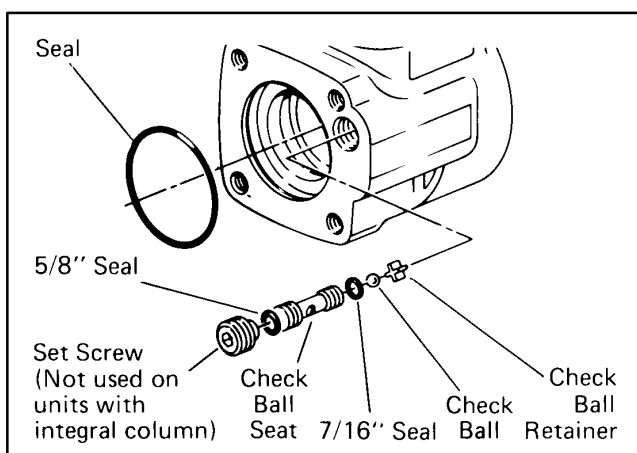

Figure 36
20. Remove seal from housing, see Fig. 36.
21. Screw a #10–24 machine screw into end of check ball seat. Then, by pulling on screw with a pliers, lift seat out of housing, see Fig. 36.